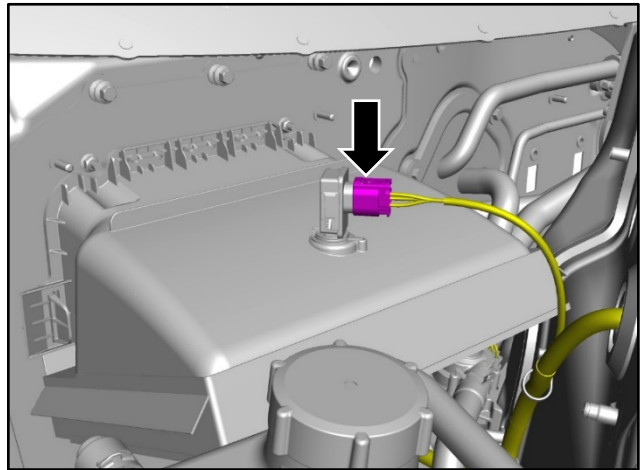

Figure 1
2. Disconnect the electrical connector. (refer to Figure 1).